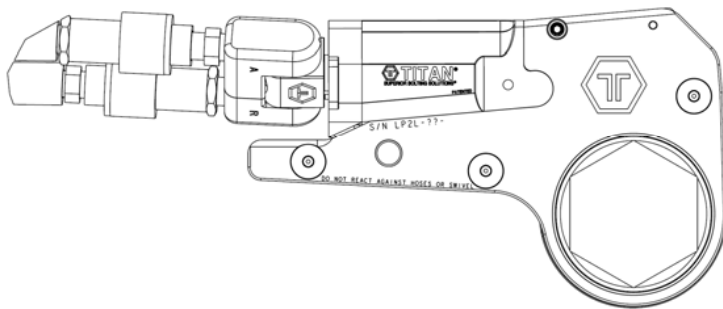

Figure 5 Cylinder and Link Assembly Step 2
2. Rotate cylinder till flush with link as shown in Figure 5.